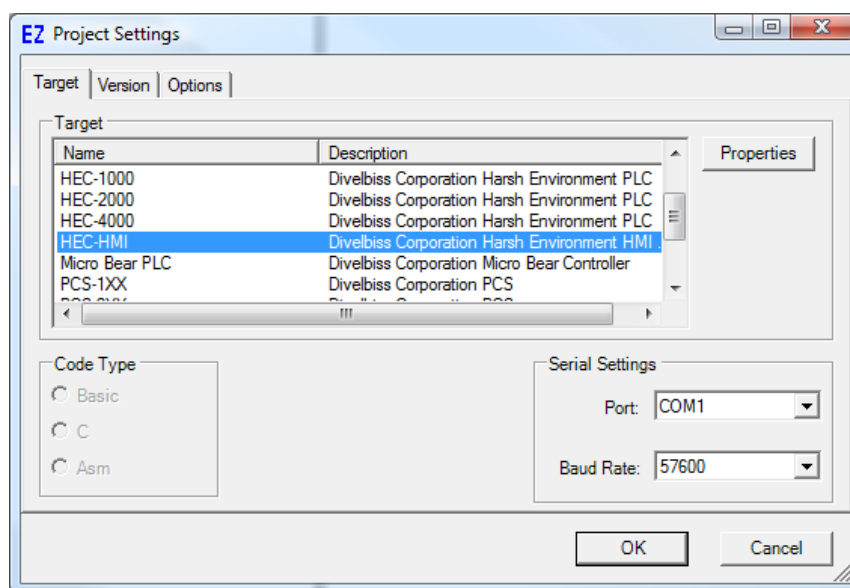

Figure 1 - Project Settings Window
1. In EZ LADDER, from the File Menu at the top, click **PROJECT** then **SETTINGS**. This will open the Project Settings Window. Select **HEC-HMI** as the target from the choices. Refer to Figure 1.